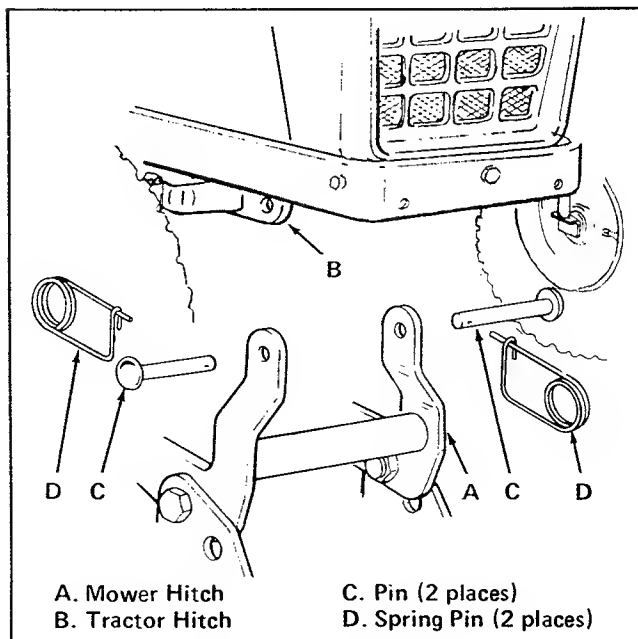

Figure 8. Attach Mower
6. Lift front of mower and attach mower hitch (item A, figure 8) to front tractor hitch (B) using pins (C) and spring pins (D).